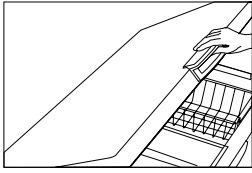

Figure 1
- 3.**Open the door of your product and wait the ices for melting when the door is on open position. (Figure 1)